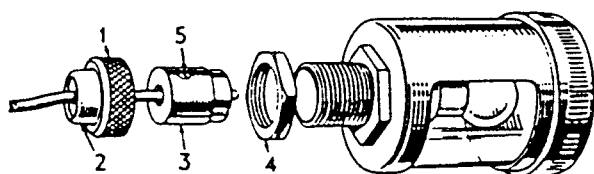

FIG. 9.
- (1) Remove from the tail lamp the knurled nut (1), cable sleeve (2), moulded adaptor (3), and fixing nut (4), as shown in Fig. 9.
- (2) Fit tail lamp to number plate bracket and secure by means of fixing nut, the tail light window being arranged to illuminate registration letters and numerals.
- (3) Thread the cable sleeve and knurled nut on to the short length of cable for tail lamp.
- (4) Slacken the terminal screw (5) in the side of the moulded adaptor and push bared portion of cable (approx.  $\frac{1}{2}$ " (12.7 mm.)), into terminal and then tighten the screw.
- (5) Insert moulded adaptor into sleeve of tail lamp and secure in position by fitting cable sleeve and knurled nut.